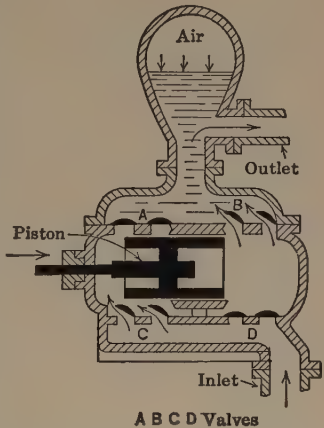

FIG. 319. — Double-acting force pump used in water-pumping stations.
**Power pumps.** The pump most commonly seen at pumping stations is the **double-action force pump** driven by steam power. The operation of this can readily be understood from Fig. 319. This pump is